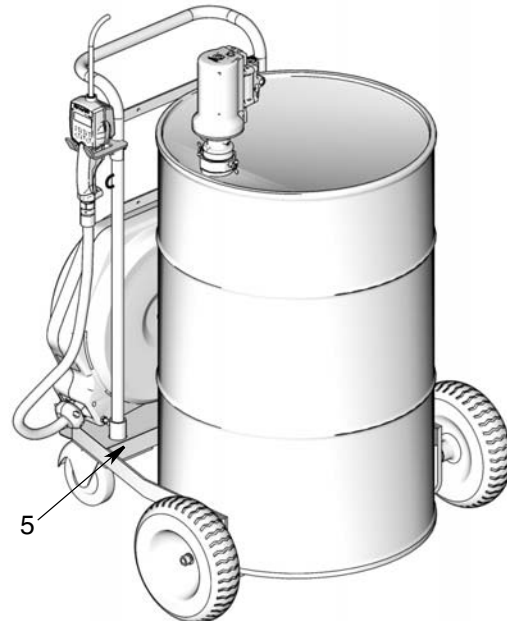

FIG. 34
- Install drum on cart base (5) (FIG. 34).